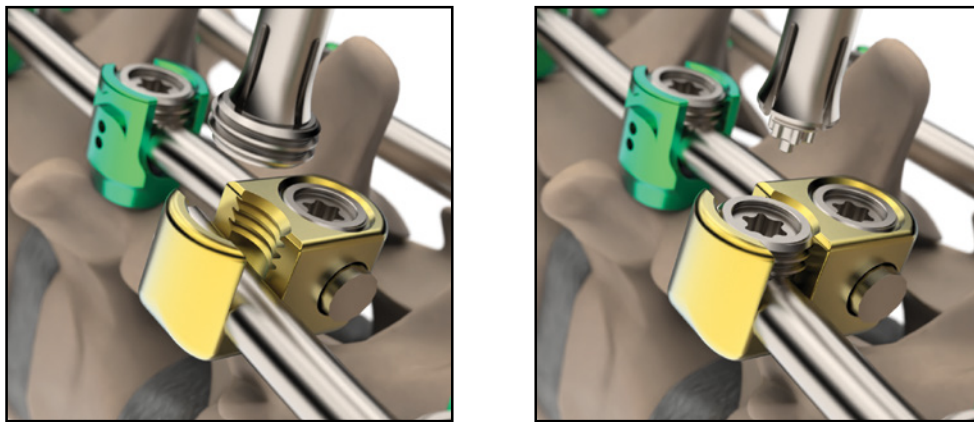

Figure 7.1
1. Slide the rod to rod connector to the desired position on the rod and provisionally tighten the Set Screws with the Tactile Set Screw Inserter (Figure 7.1).